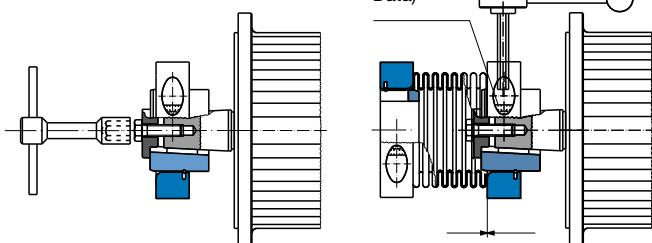
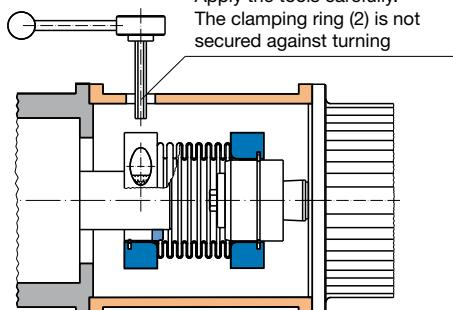

Fig. 7
Fig. 8
– see also Fig. 6 and Fig. 8
- Push the entire coupling over the whole length of the reducing bushing (5) onto a shaft.
– see also Fig. 7 and Fig. 8
- Remove the clamping ring (2) with the protruding reducing bushing with tapered bore (6) from the coupling.
- Push the reducing bushing with tapered bore (6) onto the conical shaft.
- Push the rest of the coupling with the open steel bellows side up to its limit between the clamping ring (2) and reducing bushing with tapered bore (6).
- Tighten the cap screw (4). The screw tightening torque (see Technical Data, page 4) must be observed.
- Push the second shaft over the entire length of the reducing bushing (5) into the coupling.